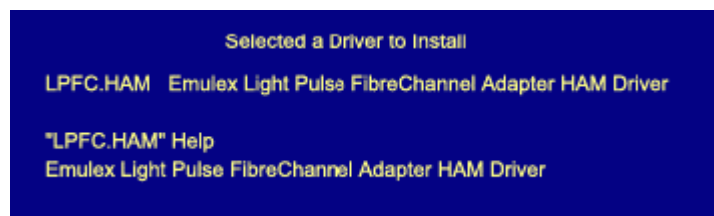

Figure 5: Select a Driver to Install
- Select the Emulex lpfc.ham driver and copy the driver files to the server directory. A screen similar to the Figure 5 appears: